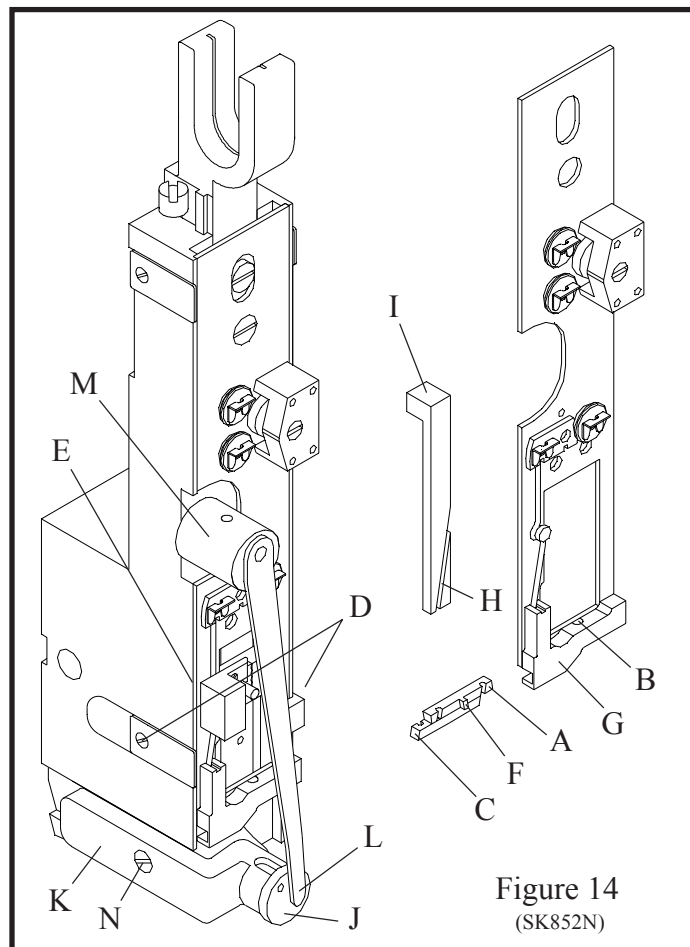

Figure 14
J. Wire Cutters: (See fig. 14)
3. Lift end of spring (Index L, Figure 14) out of rotator.
5. Slip the rotator operating cam (Index M, Figure 14) forward and off the stud.
11. Remove the cutter operating slide (Index I, Figure 14).
M. Rotator (See fig. 14)
The rotator holder and rotator operating spring are responsible for alignment of the wire beneath the bender bar grooves. The position of the rotator holder determines how far the rotator is pushed forward under the bender bar by the rotator operating spring (Index L, Figure 14). A weak spring will not push the rotator in far enough and with this improper alignment the bender bar will knock the wire from the rotator or will shear the wire into pieces. To secure proper alignment, check the position of the rotator holder and the tension applied by the rotator operating spring. Make any necessary adjustment of the rotator holder or replace the rotator operating spring if weak.
3. Loosen the rotator holder screw (Index N, Figure 14).